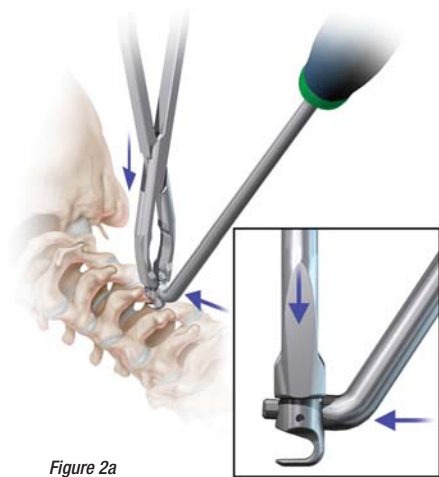

Figure 2a
- Hooks are inserted with the Hook Inserter (Figure 2a).
- Following preparation of the relevant posterior spinal elements, by removing all soft tissue and decorticating the facets and laminae, determine and mark the ideal entry point for all Minipolyaxial Screws with a burr or marking pen. An awl is also available to provide a starting point for the screw (Figure 2a).